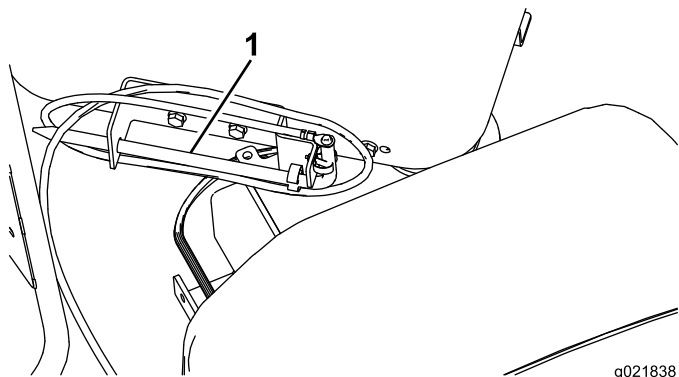

Figure 66
8. Store the grounding stake in the holder on the operator platform as shown in Figure 66.